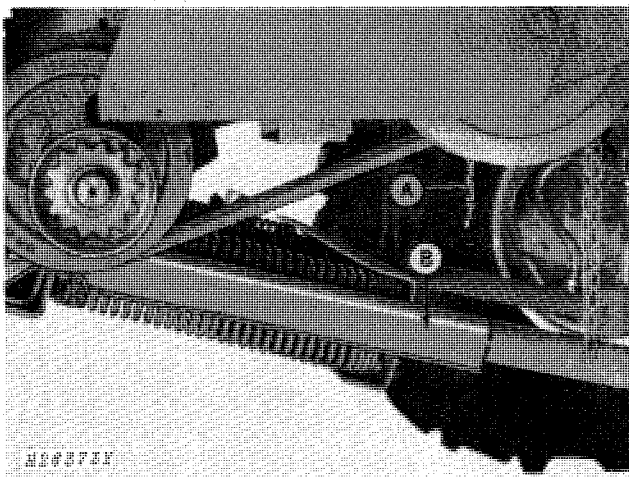
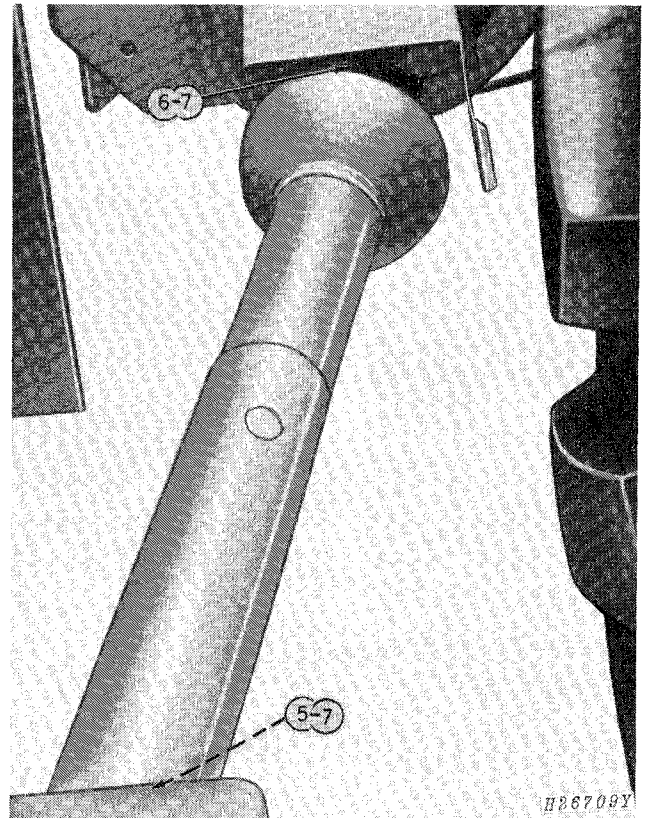

Fig. 82-Lowering Safety Stop
Fig. 83-Connecting Drive Shafts
3. Disconnect chain "A" and lower hydraulic cylinder safety stop "B" on piston rod (Fig. 82).
5. Slide the hex. end of telescoping drive shaft on hex. shaft on the platform (Fig. 83).
6. Slide splined end of drive shaft on the splined feeder house shaft (Fig. 83).
7. Tighten clamp on each end of drive shaft (Fig. 83). Raise hydraulic cylinder safety stop "B" and hook to chain "A." (Fig. 82).